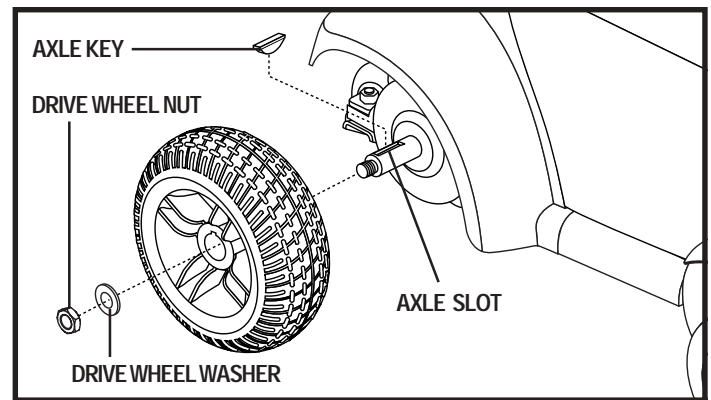

Figure 17. Jazzy Go 2 Drive Wheel
3. Remove the drive wheel nut and washer from the axle. See figure 17.